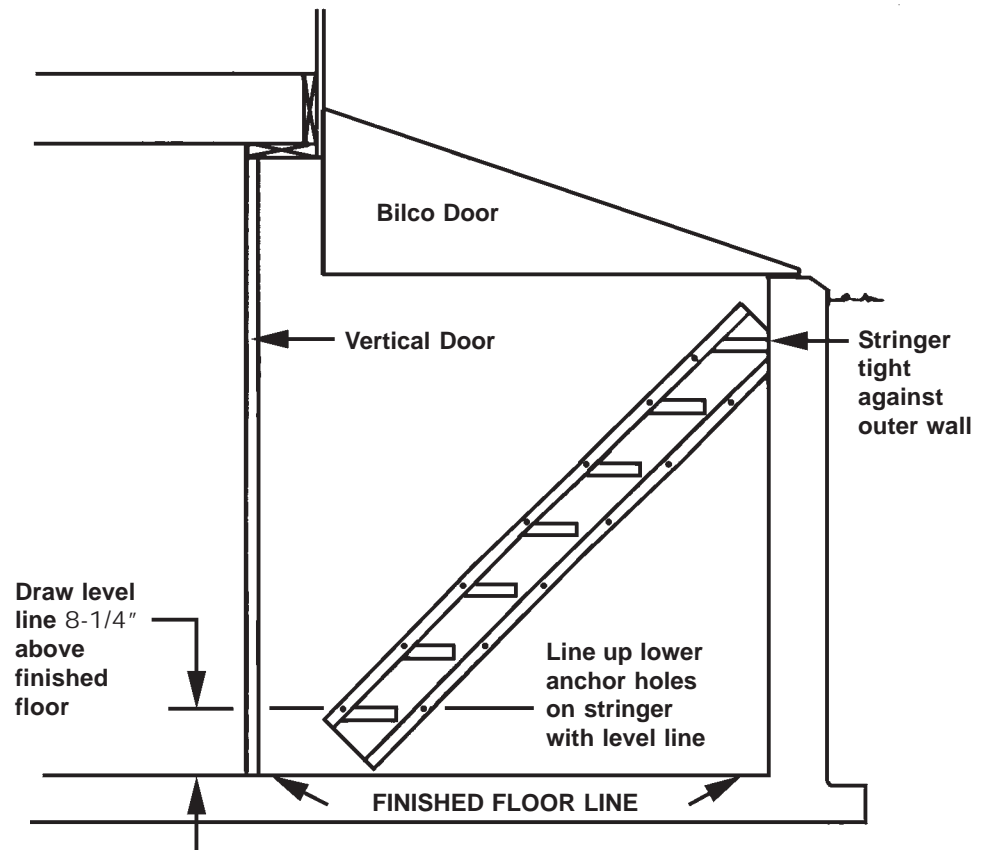

Figure 1
Measure up from the finished basement floor line and draw a level line on the wall as shown in **Figure 1**. Place one stringer up against the wall and line up the lower anchor holes on the stringer to the level line on the wall. Make sure that the top of the stringer is up tight against the outer wall. The stringer is now in position to be anchored. Anchor stringer to wall through the anchor holes in the stringer using the 1-1/4" long masonry nails supplied. Use (6) masonry nails for each stringer.